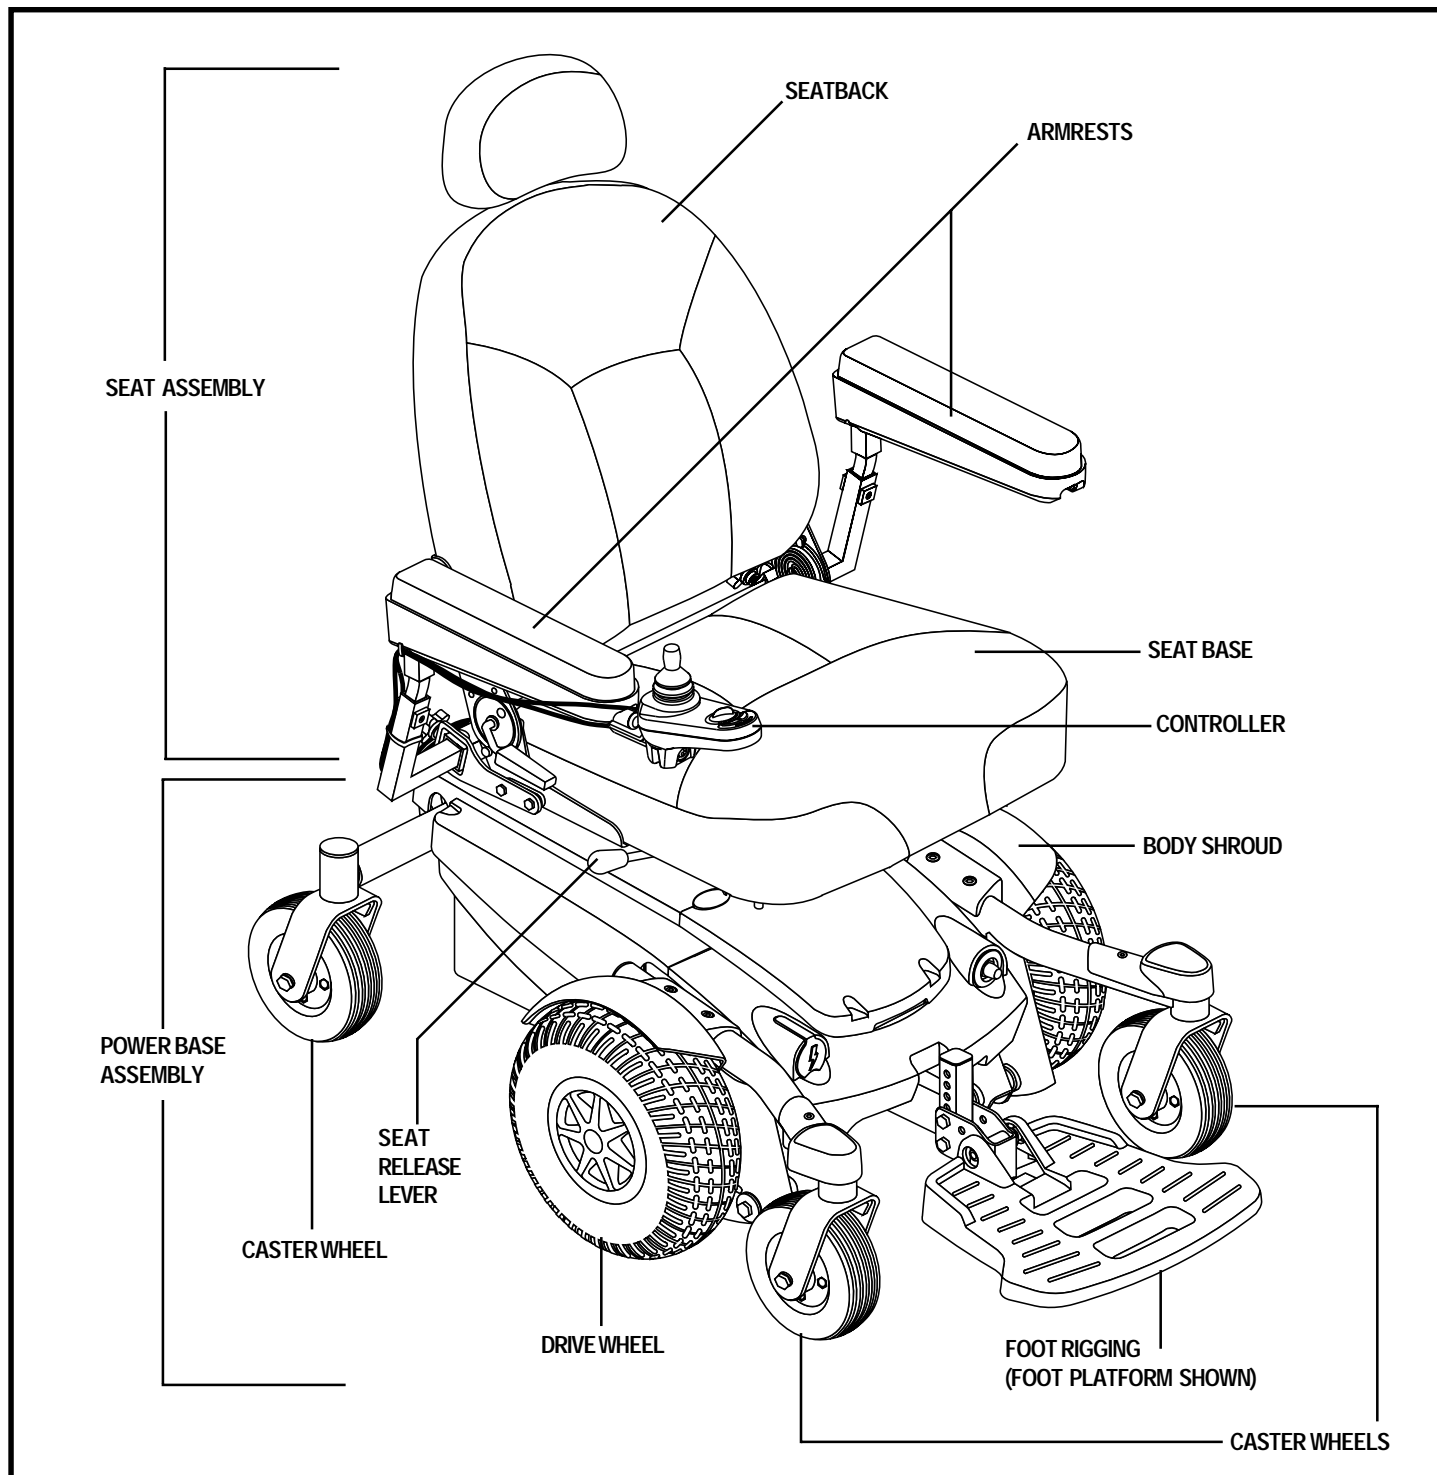

Figure 5. The Jazzy Select Series Power Chair (Jazzy Select 6 Shown)
The Jazzy Select Series Power Chair has two main assemblies: the seat assembly and the power base assembly. See figure 5. Typically, the seat assembly includes the armrests, seatback, and seat base. The power base assembly includes two motor/brake assemblies, two drive wheels, two batteries, and wiring harnesses. The Select power base will also include two rear caster wheels and two front anti-tip wheels, while the Select 6 will include four caster wheels. See figures 5, 6, 7, and 8.
1. Locate the lever on each side of the power base. See figure 5.
If your power chair is equipped with a manual recline seatback, you can adjust the seatback angle with the seatback release lever. The lever is located on the right side of the seat base. See figure 5.